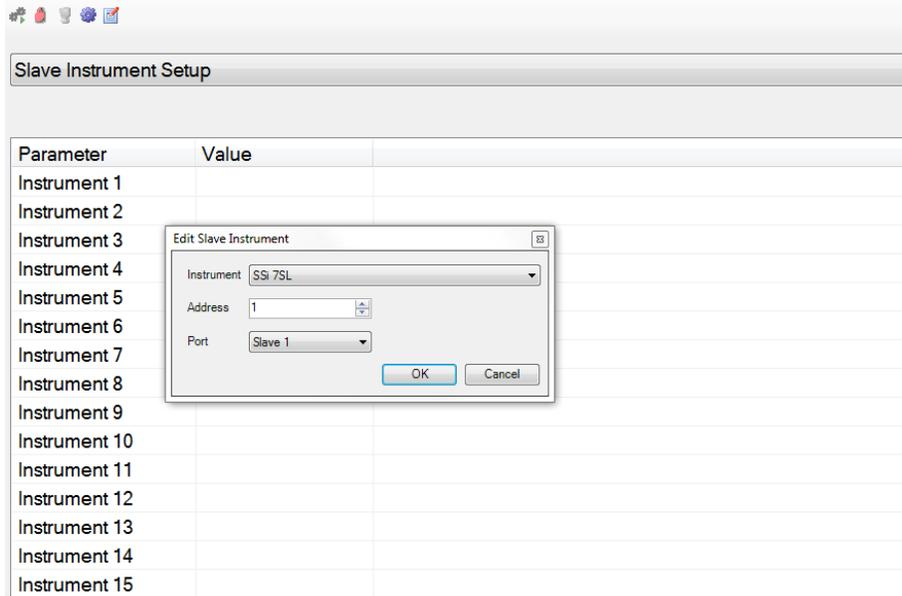

Figure 2 – Configurator slave instrument setup
- h. A box will pop up. (See Figure 2)